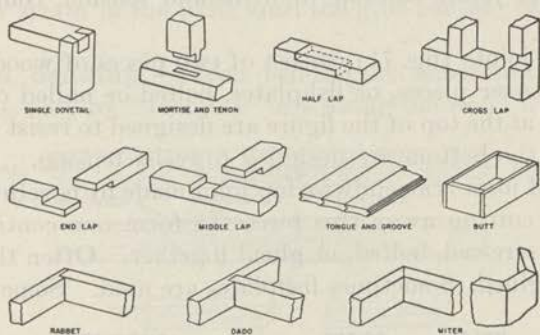

FIGURE 69.—Common types of joints.
(2) One can mortise (fig. 69) with this machine, using an attachment that consists of a bit rotating inside of a square, hollow chisel. The bit bores a round hole in the wood and is followed by the chisel
11. **Types of joints.**—Some common types of joints, with their names, are shown in figure 69. Most joints in wood are screwed, nailed, or glued; often they are both screwed and glued.